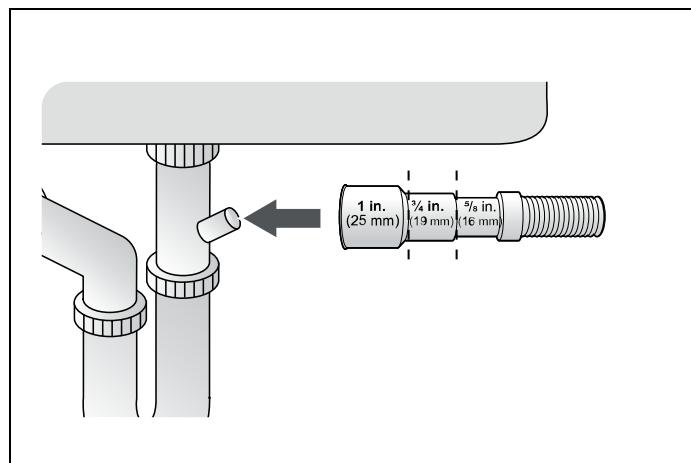

Fig. 16
- 3) Check the size of the sink drain hose connector. If needed, cut the drain hose so its end fits onto the sink connector (5/8", 3/4" or 1" - as shown in Fig. 16). If the end of the drain hose does not fit onto the drain hose connector of the sink, use an adapter purchasable at a plumbing/hardware supply store.